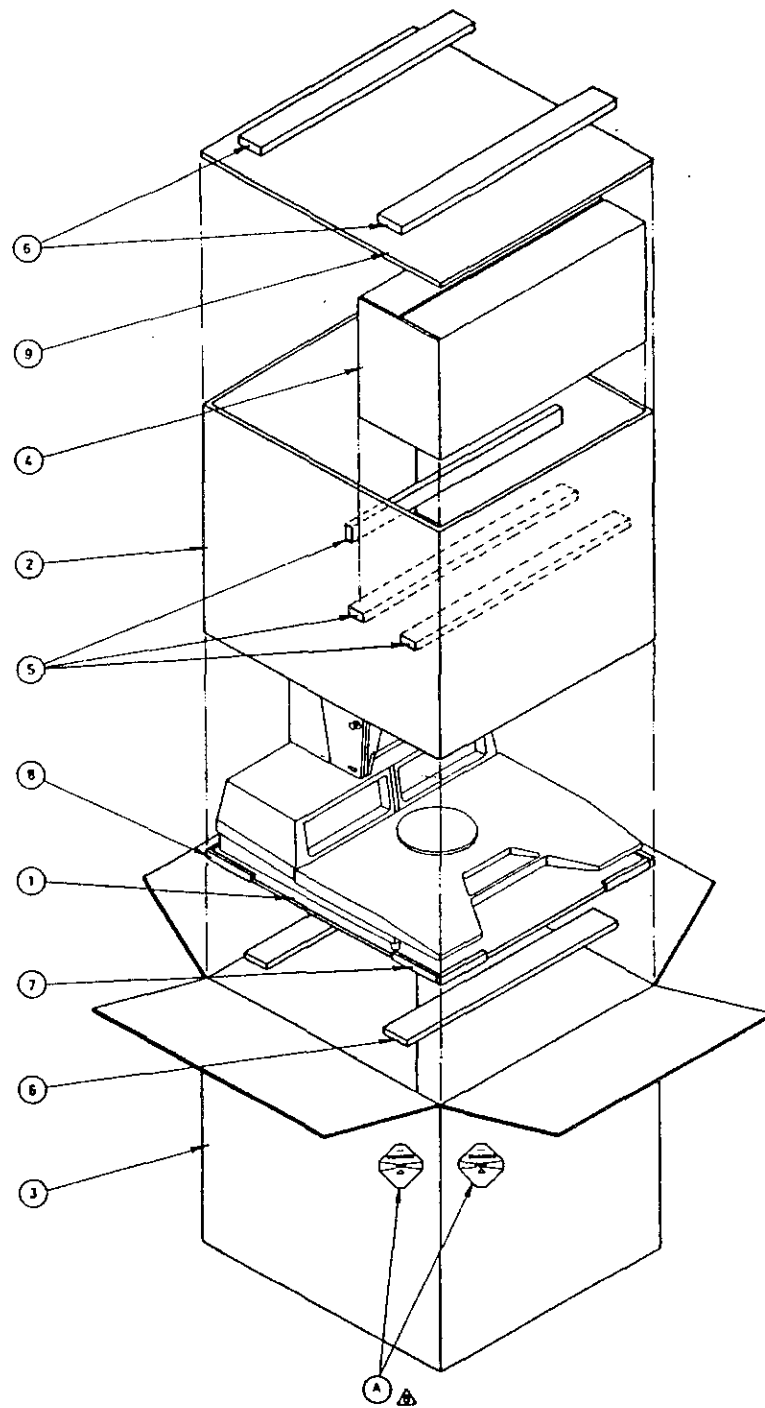

Figure 1-1 Wedge Bonder Packaging - Exploded View
- Step 1 Remove packing list from the pocket attached to the outside of the shipping carton (see Figure 1-1).
- Step 2 Cut the plastic bands which bind the carton (see Figure 1-1).
- Step 3 Open carton flaps. Remove the envelope containing the Wedge Bonder documentation from the inner lid (see Figure 1-1).
- Step 4 Lift out the two sponge slabs which separate the inner lid from the carton (see Figure 1-1).
- Step 7 Lift Accessories Box out of its "cage" in front of the Wedge Bonder, open it and take out the box(es) containing the Wedge Bonder fixtures and accessories (see Figure 1-1).